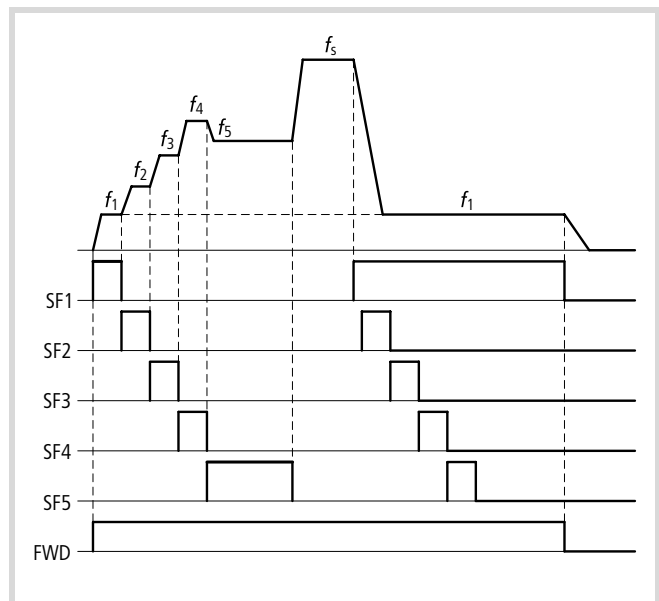

Figure 57: Function chart for bitwise fixed frequency selection (SF1 to SF5)
- ▶ Select the defined fixed frequencies by activating the respective digital inputs (→ fig. 57).
You do not have to use all five inputs. You can, for example, set only one fixed frequency. The priority of the fixed frequencies is specified through the digital input. Fixed frequency SF1 has the highest, and SF5 die lowest priority (→ fig. 57).